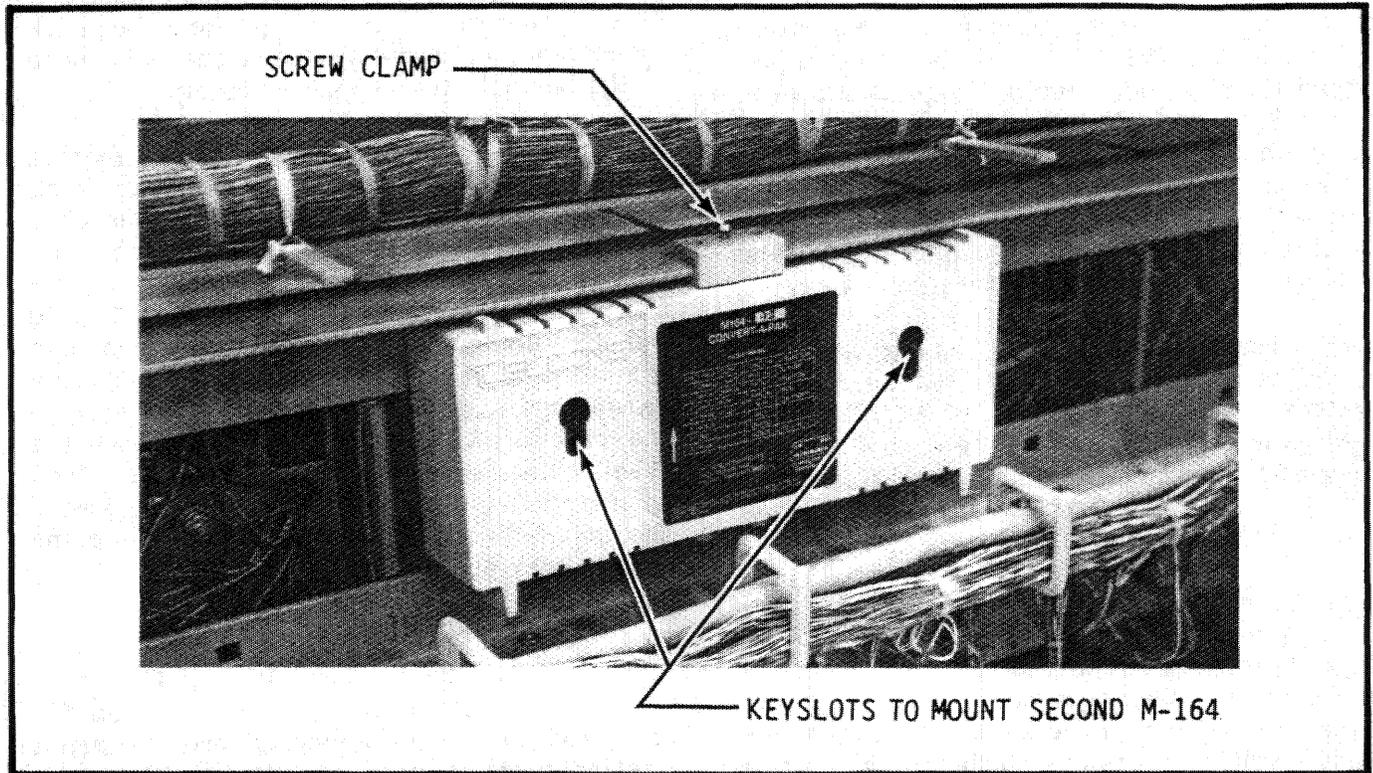

Figure 8 Mount M-164 Behind Linefinders
6.21 In the most common application the CONVERT-A-PAK is mounted just above the linefinder cable trough as shown in figure 8. In practice the units can be hung on almost any horizontal bar within reach of the cable as long as the proper vertical orientation is maintained. The units must be vertical to avoid having the mercury-wetted pulsing relay place a shunt across the line.